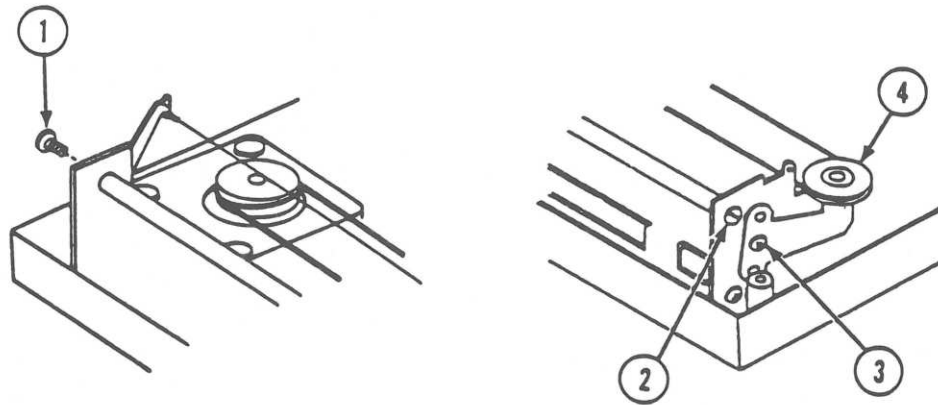

FIGURE 18
7. Remove the screw on the left end of the carrier guide shaft (See Figure 18, #1) and set aside the ribbon wire arm.
(See Figure 18, #2.)